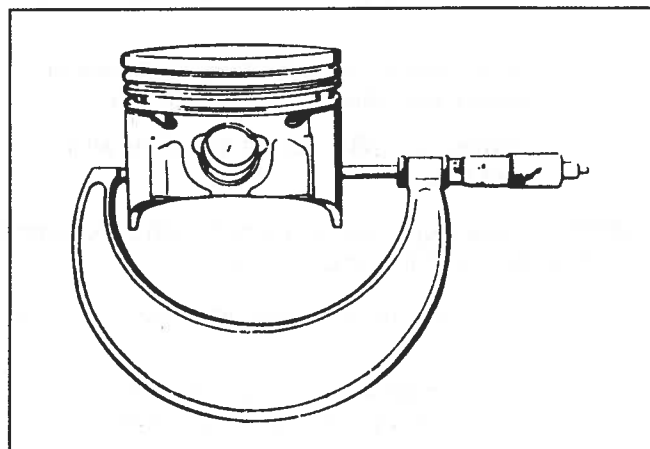

Figure 8-108. Measuring Piston Diameter
- b. Measure piston diameter at skirt across centerline of piston pin (Figure 8-108).